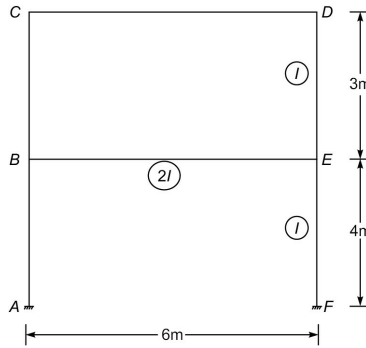

Fig. Q. 44
44. Figure Q. 44 shows a frame to be analysed by moment distribution. The distribution factors for members EB , ED and EF will be respectively